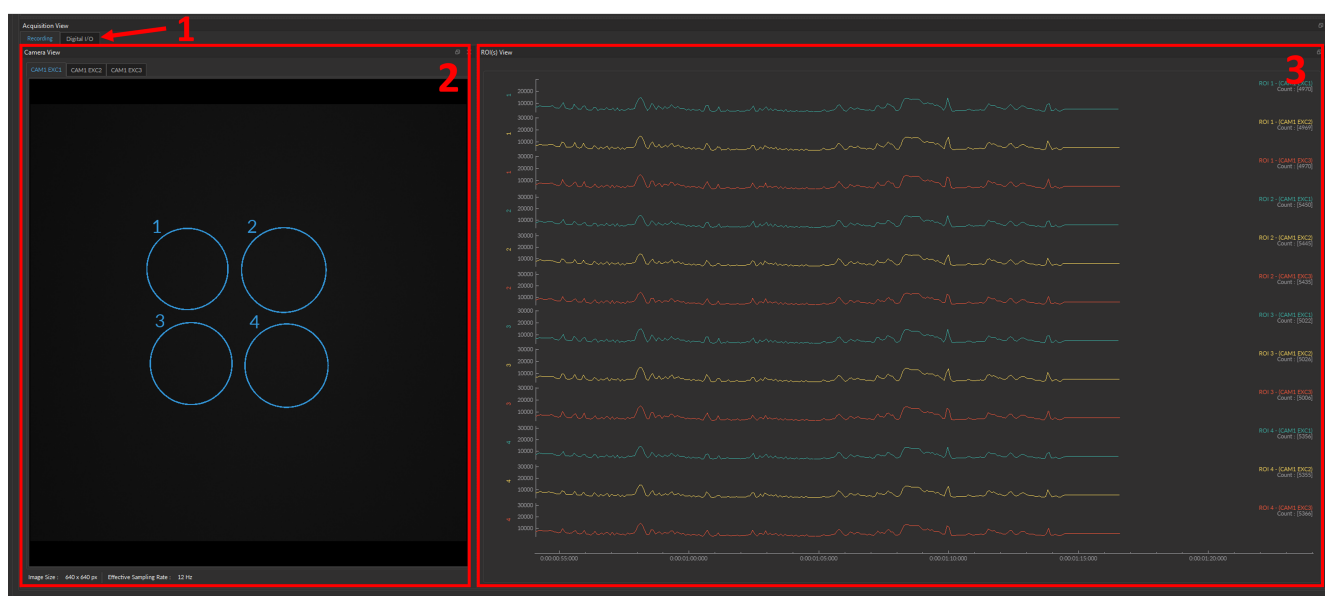

Figure 9.32: Acquisition View
The **Acquisition View** (Fig. 9.32) is split into three separate divisions, each of which visualizes different types of data in the following sections:
1. The **Digital I/O(s) View** (Fig. 9.32, 1) - Section 9.5.1;
2. The **Camera View** (Fig. 9.32, 2) - Section 9.5.2;
3. The **ROI(s) View** (Fig. 9.32, 3) - Section 9.5.3.